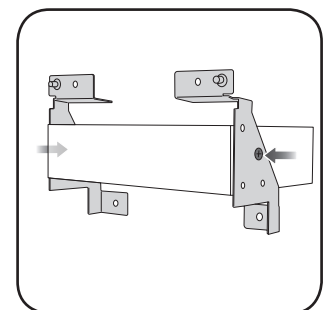

Fig. 3.10
10. Mount the factory brackets to the aftermarket radio chassis. Align the center hole of the brackets with the mounting locations on the radio chassis and secure using the screws provided with the aftermarket radio. (Fig. 3.10)